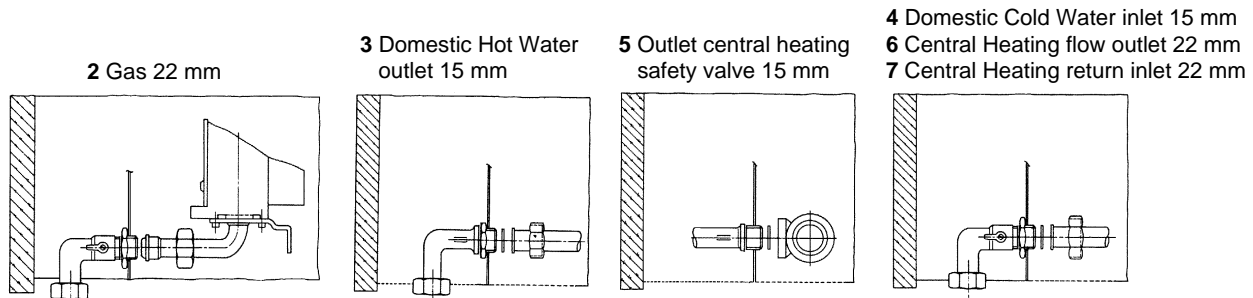
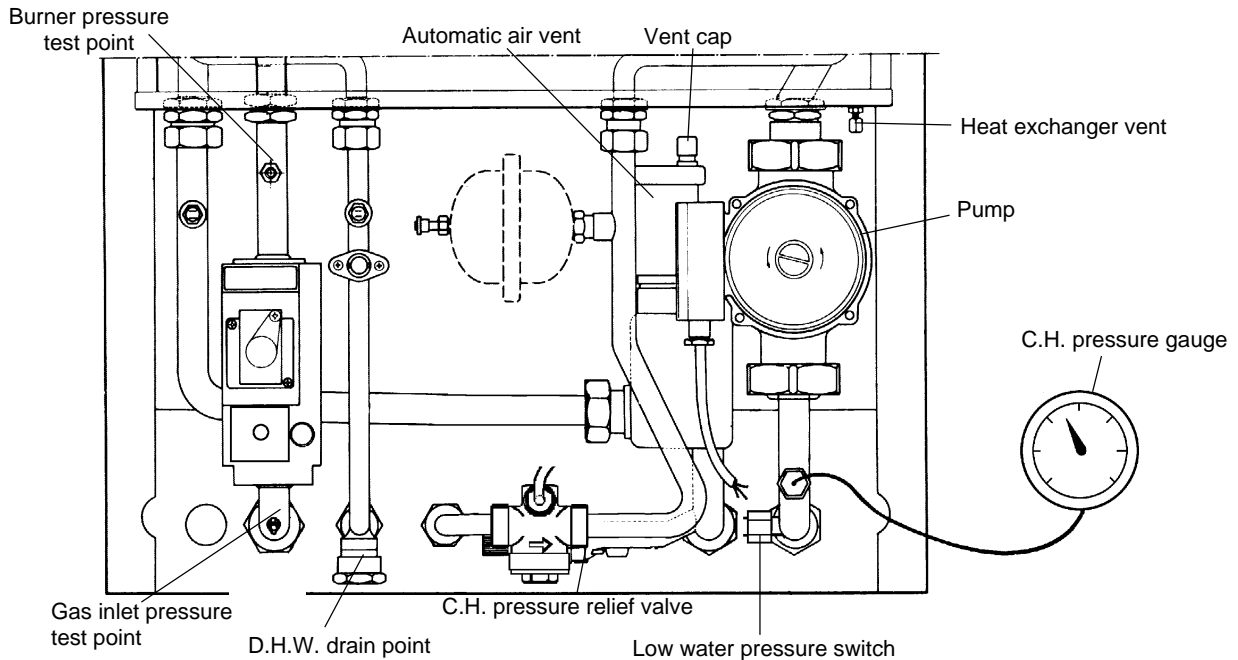

Fig. 11
Fig. 20
- 2.6 With the exception of the connection to the pressure relief valve, make all the water and gas connections to the jig bracket valves. Fully tighten (fig. 11). Water connections can be made with compression or capillary fittings (before the gas inlet to the boiler there must be at least 100 mm of straight before any bends).
Remove the top front panel by gripping both sides and lifting forward away from main boiler assembly. Loosen the cap of the automatic air vent (fig. 20) and leave it loose. Open the central heating flow and return cocks (fig. 11). Gradually fill the system as detailed in Make up Water. While filling, vent the heat exchanger at venting point by loosening cap (fig. 20) and vent each radiator. Tighten cap on heat exchanger air vent. Ensure the working pressure, when filled, is between 1 to 1.5 bar on the pressure gauge (see technical data). Check the system for leaks. Flush system in accordance with BS 7593.
Close all hot water draw off points. Open main cold water stop cock and ensure the cold water inlet cock is open at the boiler jig bracket (fig. 11). Slowly open each hot tap in turn until clean water, free from air pockets, is seen. Check system for leaks.